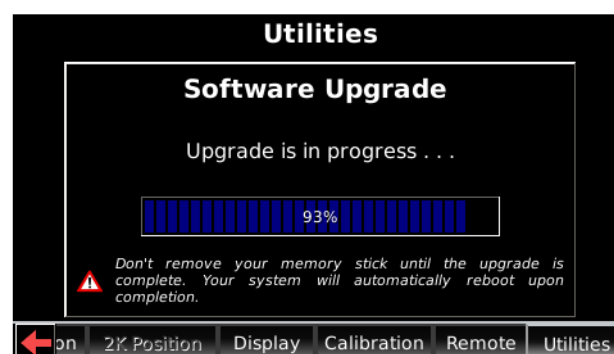

Figure 2-59 Upgrade Is in Progress Screen
- Press **ENTER** to display the files on the USB device, then use the arrow keys to select the upgrade file, as shown in Figure 2-59.